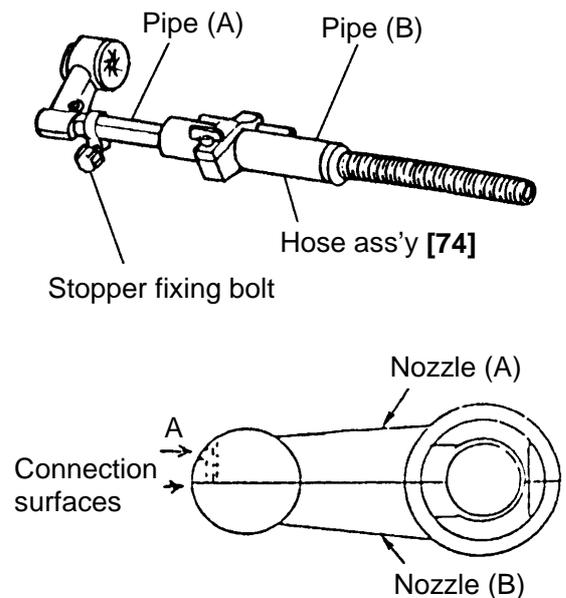

Fig. 13
### ● Disassembly of the Dust Collection Adapter Ass'y (Refer to Fig. 13.)
Disassemble the Rubber Cap [70] and the Nozzle Seal [69] from the nozzle portion, and remove the screw that fastens nozzle (A) and nozzle (B). While pressing the claw head of nozzle (B) in the direction indicated by arrow 'A' in Fig. 13, insert the tip of a thin slotted-head screwdriver between the surfaces in front of the claw-connected portion and pry up gently to disengage the claw so that nozzle (A) and nozzle (B) can be removed from pipe (A). Next, take the stopper off from pipe (A), and remove the o-ring from the tail cap side so that the tail cap can be removed from pipe (B). Pipe (A) can then be taken out from pipe (B) by enlarging its split section after removing the retaining wing bolt.